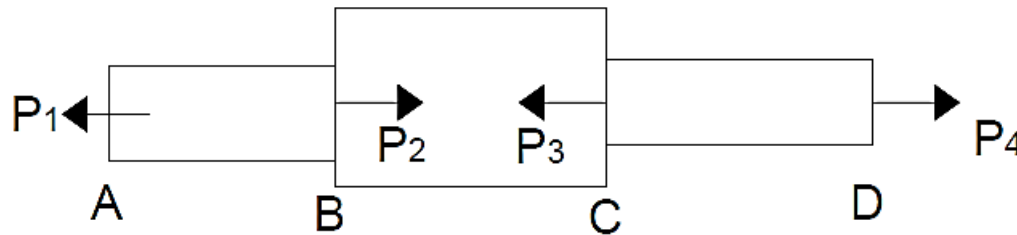

Fig. 2
3. (a) A member ABCD is subjected to point loads  $P_1, P_2, P_3$  and  $P_4$  as shown in the Fig. 2 below.